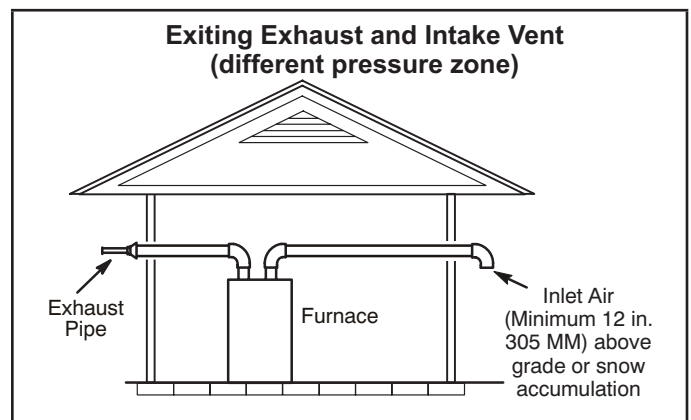
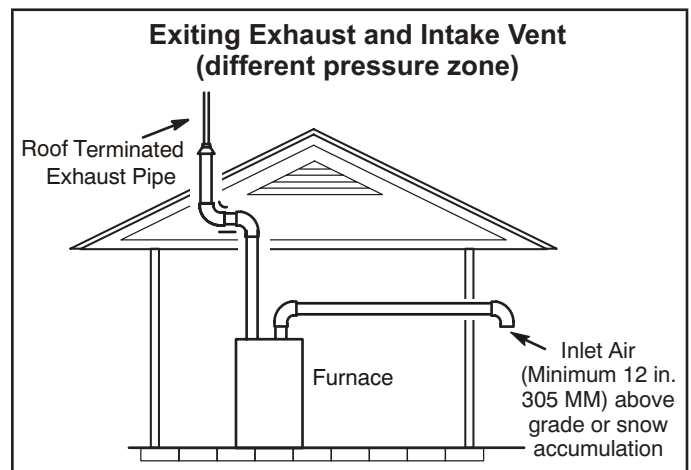

FIGURE 28
FIGURE 29
- 1 - Vent terminations are not required to be in the same pressure zone. You may exit the intake on one side of the structure and the exhaust on another side (FIGURE 28). You may exit the exhaust out the roof and the intake out the side of the structure (FIGURE 29).